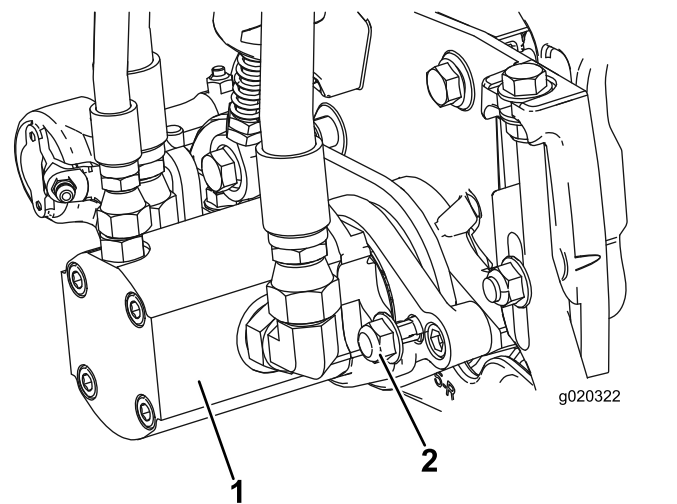

**Figure 12**
- Secure the lift-arm chain to the chain bracket with the snapper pin (Figure 12).